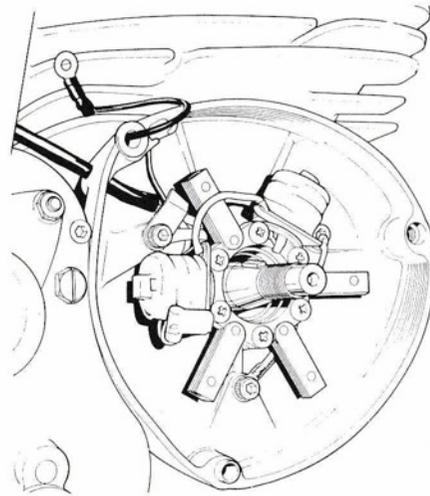

Fig. 10 Stator external connections.
- 13 Release the three backplate socket screws and spring washers. The top left screw holds the metal cable clip in position and the bottom screw secures the earth lead. (See Fig. 10)